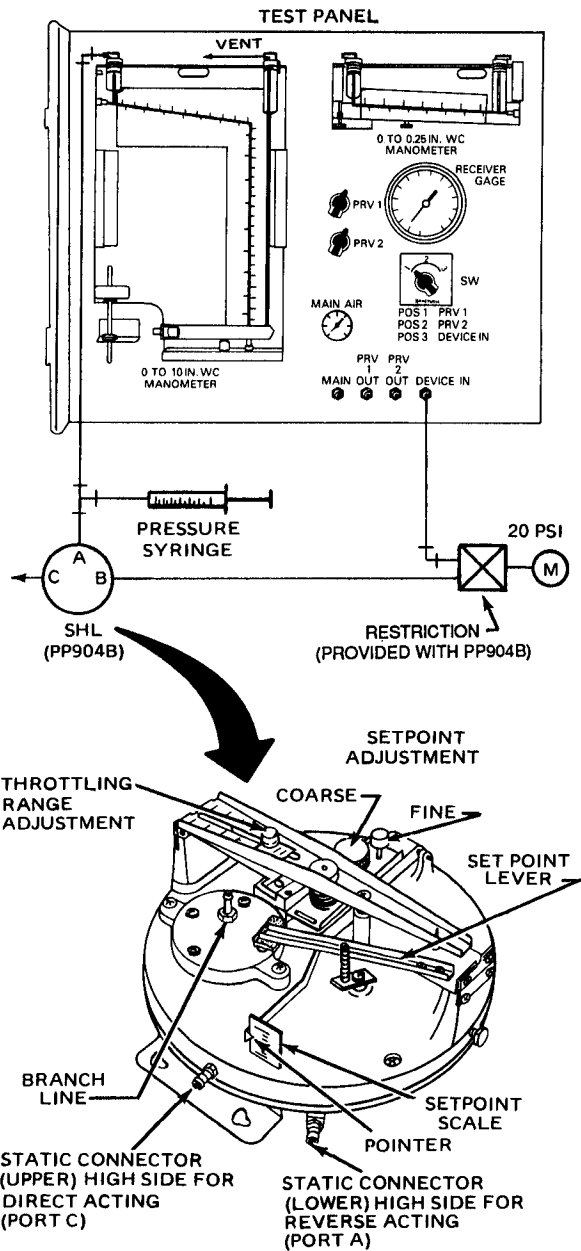

Fig. 7. Test Panel Setup for Controlling SHL (PP904B).
1. Pipe SHL per Figure 7. (Pull plunger out on pressure syringe before connecting tubing.)
5. Set SHL Throttling Range (TR) to maximum adjustable value (0.5 in. wc).